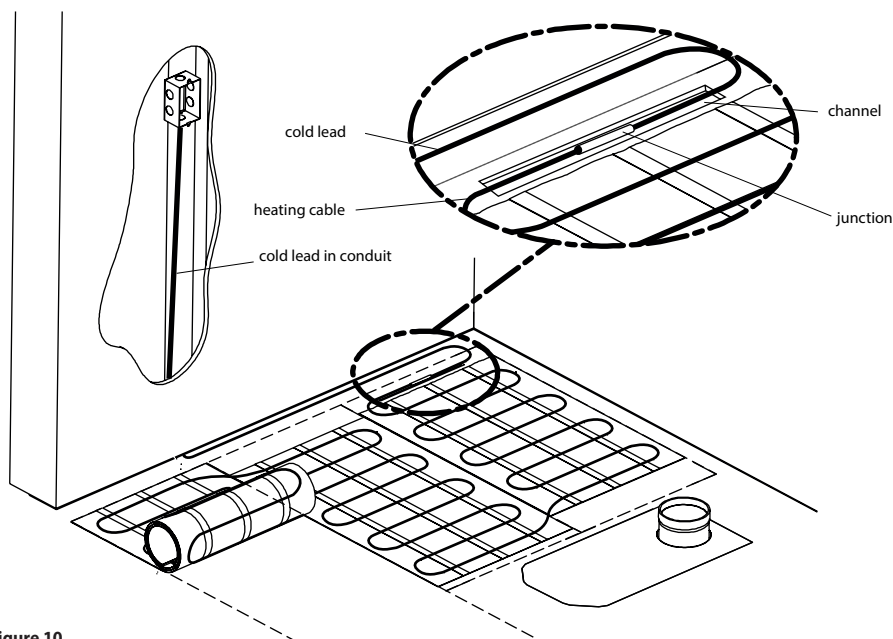

Figure 10
- Unroll the mat, adhesive side down (figure 10);